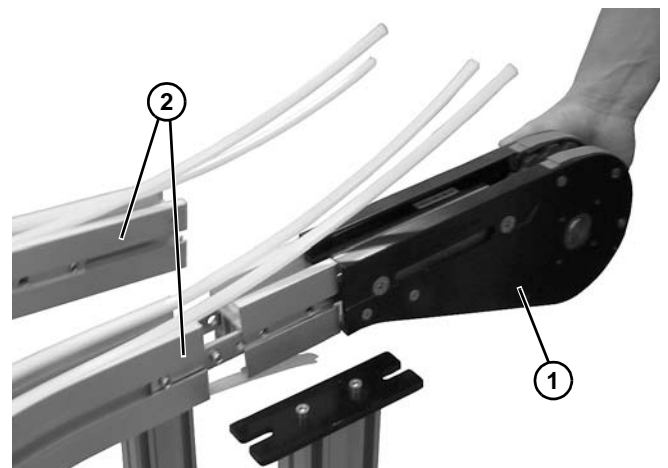

Figure 182
6. Remove the tails (Figure 182, item 1) from the conveyor (Figure 182, item 2).